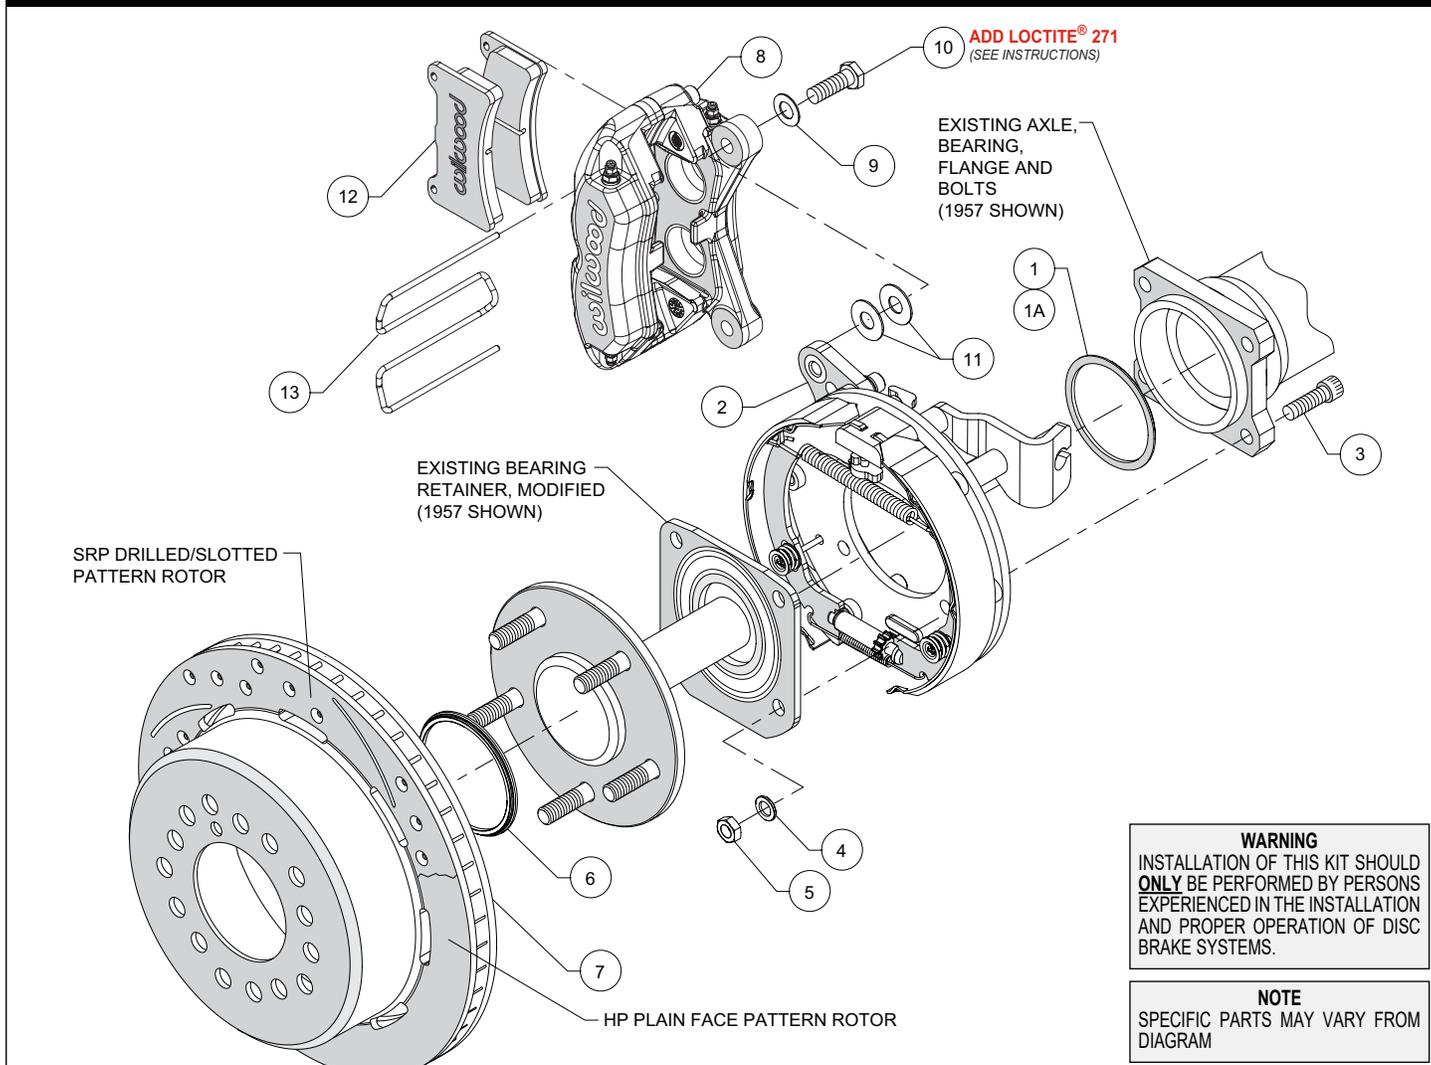
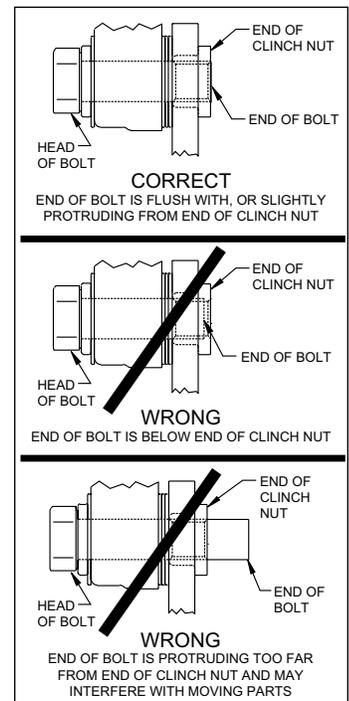

Figure 1. Typical Installation Configuration
Figure 5. Clinch Nut Engagement Diagram
**NOTE:** Numbers in parenthesis refer to the parts list and Figure 1 on the preceding pages.
**CAUTION:** All mounting bolts must fully engage clinch nuts. Be sure to check that all bolts are either flush or protruding through flanged side of clinch nut after shimming, Figure 5.
- With the bearing retainer in place, slide the caliper mounting bracket assembly (2) onto the axle as shown in Figure 1 and Photo 1. Install axle shim (1 for model year 1955/56) or (1A for 1957) over axle shaft with bearing chamfer facing toward the axle housing, as shown in Photo 2.
- Slide the axle and parking brake assembly into the axle housing ensuring that the backing plate is flush with the axle housing flange and the bearing retainer is flush with the backing plate. Secure OEM bearing retainer using bolts (3), washers (4) and lock nuts (5), as shown in Figure 1. Lock nuts (5) and washers (4) that retain the caliper mounting bracket assembly (2) should be on the wheel side of the bracket, Figure 1. Torque nuts to 40 ft-lbs.
- Slide the rotor registration adapter (6) onto the axle register on the axle flange with the smaller O.D. facing toward the rotor/hat (7), Photo 3. Align the correct hole pattern in the rotor/hat with the stud pattern on the axle flange and slide into place, Figure 1 and Photo 4. **NOTE:** The rotor/hat must fit flush against the axle flange or excessive rotor run out may result. Install three lug nuts (finger tight) to keep the rotor/hat assembly in place while continuing with the installation. **NOTE:** Some OEM and after market axles come with stud sizes larger than 0.50" diameter. Verify stud size and have a qualified machine shop drill the bolt circle of the hat/rotor to the correct stud size, if necessary.
- NOTE:** Please reference the caution statement at the beginning of the assembly instructions. Mount the caliper (8) onto the caliper mounting bracket (2) using bolts (10) and washers (9), as shown in Figure 1. Initially place two .035" thick shims (11) on each bolt between the caliper and the bracket, Photo 5. Temporarily tighten the mounting bolts and view the rotor (7) through the top opening of the caliper. The rotor should be centered in the caliper, Photo 6. If not, adjust by adding or subtracting shims between the bracket and the caliper. Always use the same amount of shims on each of the two mounting bolts. **NOTE:** The end of each bolt must be flush with or slightly protruding from the head of the clinch nut, as shown in Figure 5. If necessary place spare shims between washer (9) and caliper mounting ear to achieve the proper clinch nut engagement. Once the caliper alignment and clinch nut engagement are correct, remove the bolts one at a time, apply red *Loctite*® 271 to bolt threads, and torque to 40 ft-lb.
- Install the disc brake pads (12) into the caliper, with the friction material facing the rotor (7), and secure in place using pad clip retainer (13), Photo 7.
- NOTE:** Clevis and cable kits which attach to the parking brake assembly are not included in the Wilwood parking brake kit. Wilwood offers a generic style parking brake cable kit, P/N 330-9371 for this application which can be ordered separately from your local Wilwood dealer or by calling Wilwood customer service at (805) 388-1188.
- Before final installation of the wheel, install three lug nuts, remove the rubber grommet in the bracket kit assembly (2) and adjust the parking brake shoes outward (using a drum shoe adjustment tool available at your local auto parts store) while spinning the rotor/hat (7) until a slight drag is felt against the hat/drum. Replace the rubber grommet when finished.